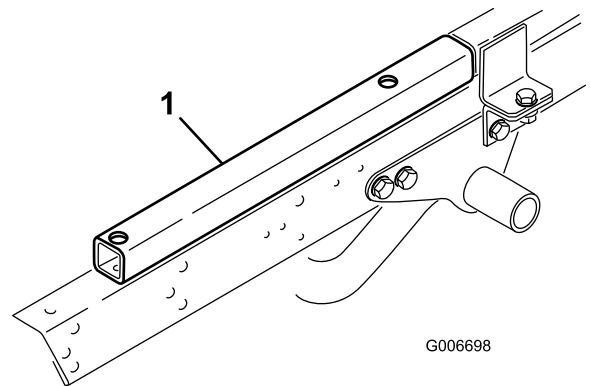

Figure 14
1. Remove any accessories mounted to the top of the frame in forward position; such as a 1/3 bed, power platform, or HD hitch frame extension tubes (Figure 14).